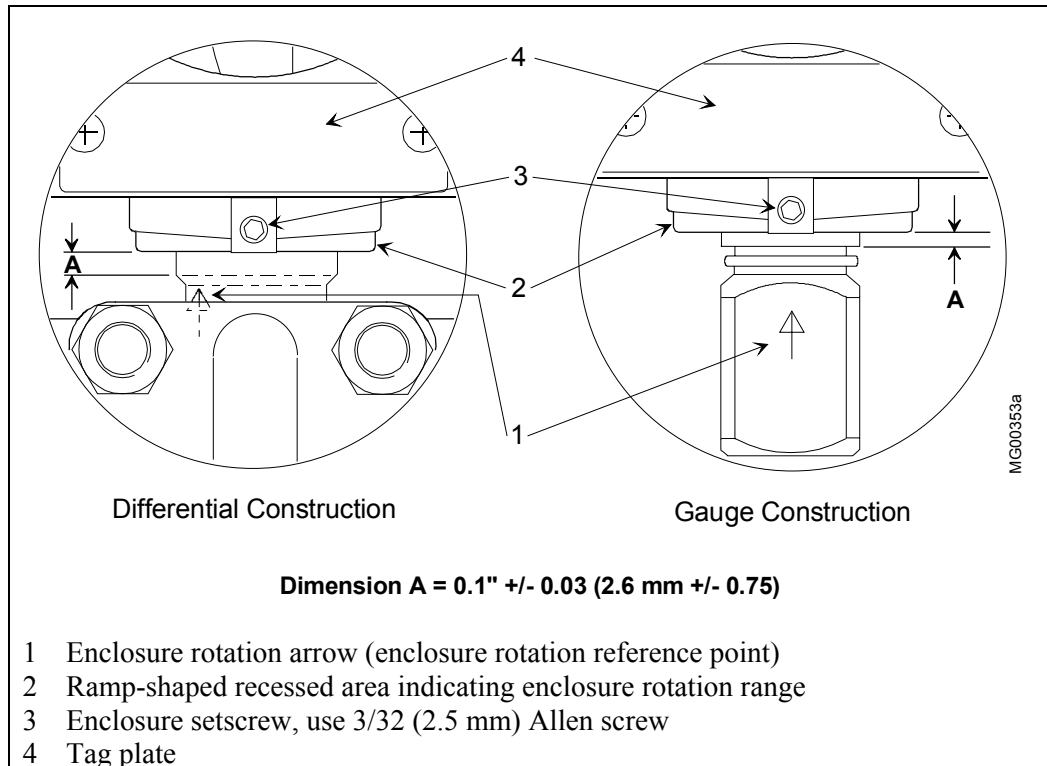

FIGURE 7-4 Measuring Cell Alignment and Insertion Depth
- the enclosure setscrew should be in-line with the raised area in the center of the process flange; see Figure 7-4
- the neck dimension shown in Figure 7-4 is correct